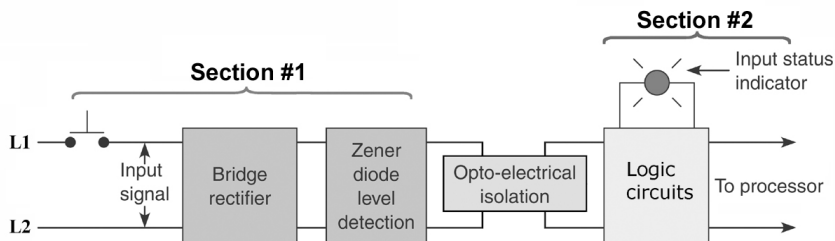

Figure 2-2 Block diagram for question 23.
23. For the block diagram of the input module shown in Figure 2-2, Section #1 represents the ____ and #2 the ____.